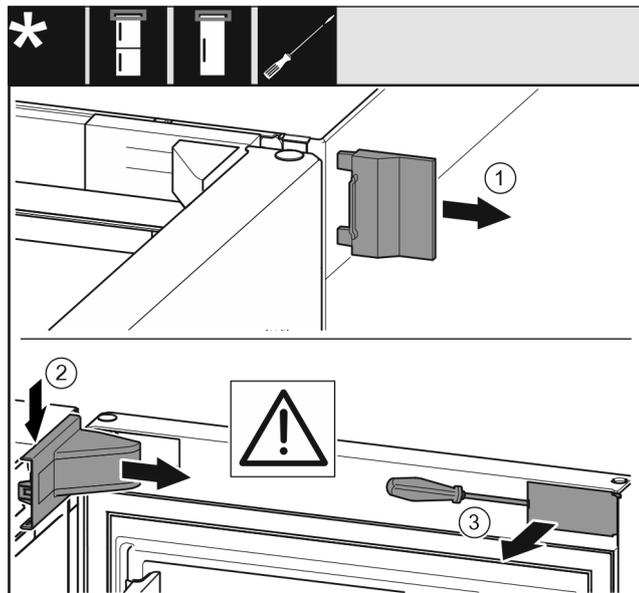

Fig. 6
- ▶ Remove the outer cover. Fig. 6 (1)
- ▶ Disengage and release the bearing bracket cover. Remove the bearing bracket cover. Fig. 6 (2)
- ▶ Unlatch the panel with a slotted screwdriver and swivel it to one side. Fig. 6 (3)